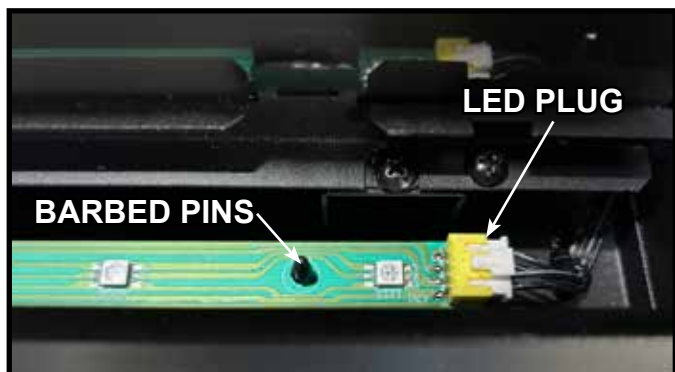

Figure 6 LED Plugs
5. Disconnect LED's and disengage barbed pins using needle nose pliers and remove LED'S. See Figure 6.
6. Replace LED's into ember bed compartment, making sure the plug ends are on the correct side. Plug in. See Figure 6.